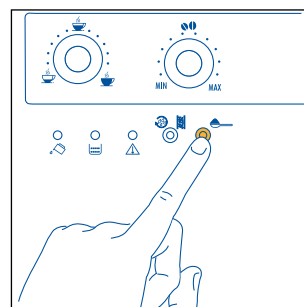

Fig.18
1. Press the  button to select the ground coffee function (Fig. 18). The light inside the button switches on to indicate that the function has been selected and the coffee grinder has been disabled.